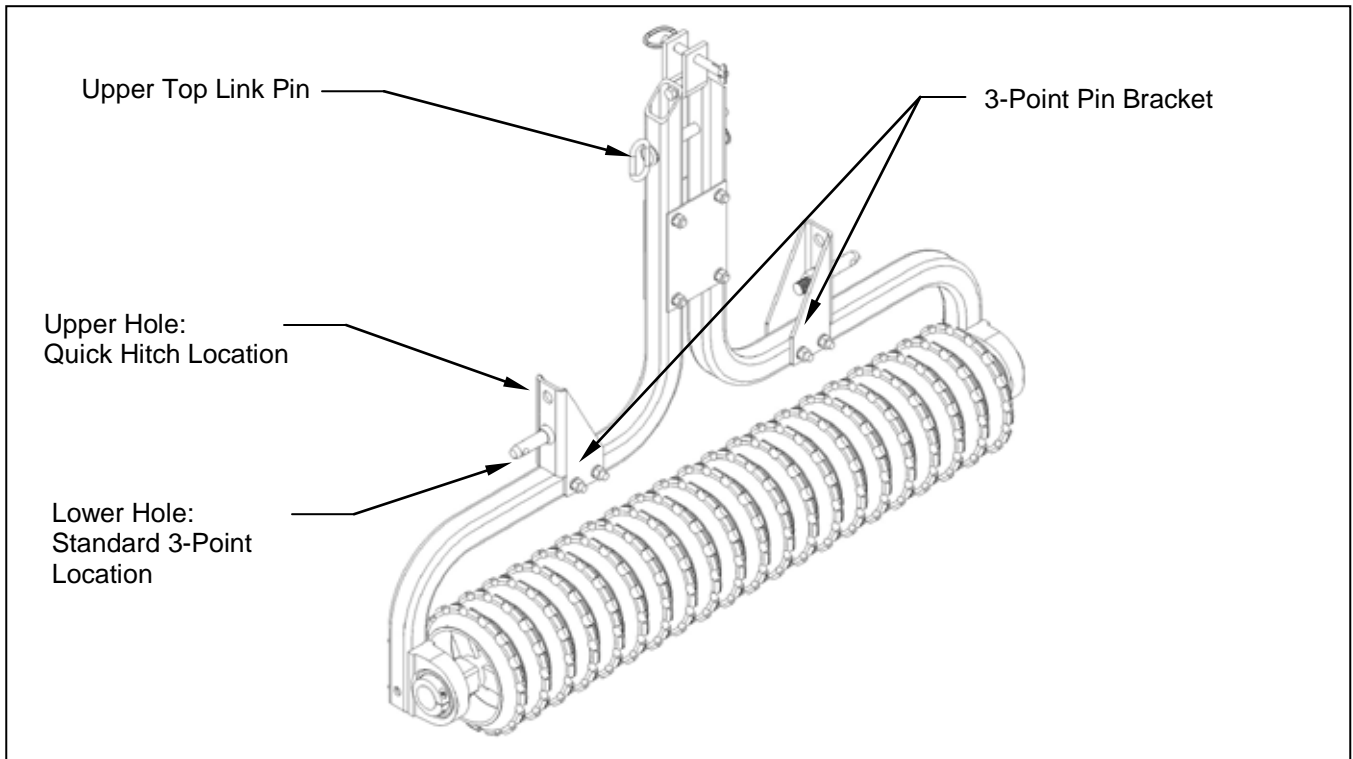

Figure 2. – Assembly of 3-Point Kit
B. ASSEMBLY OF OPTIONAL 3-POINT KIT (See Figure 2)
2. Install each lower 3-point pin bracket on the cultipacker frame as shown in Figure 2. Fasten securely with the 1/2" nuts, lock washers and bolts that were removed in Step 1.